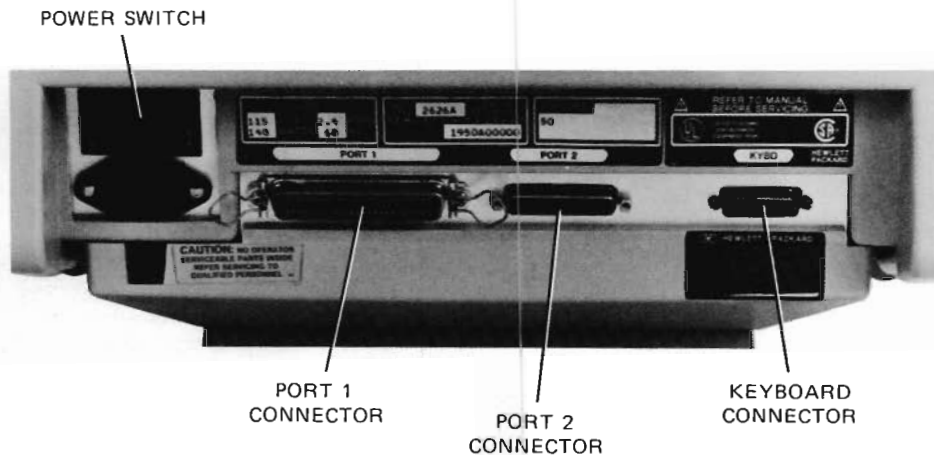
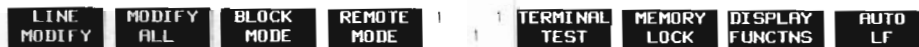

Figure 2-3. HP 2626 Power Switch and Connector Positions, Rear Panel
Figure 2-4. HP 2626 Initial Screen Display
2. Connect and secure the keyboard cable hood connector to the socket connector labeled KYBD on the terminal's rear panel (see Figure 2-3).
4. Set the main power switch on the terminal's rear panel (see figure 2-3) to the OFF position.
When the installation of your terminal is completed, set the main power switch on the rear panel (see figure 2-3) to the ON position. After approximately 15 seconds, the terminal is ready to use. Figure 2-4 illustrates the condition of the display screen as it appears following the initial application of power to the terminal.
When the terminal is ready to use, the cursor is displayed in screen column 1, row 1. In addition to the cursor, the primary level of function key labels is displayed across the bottom of the screen (figure 2-4).